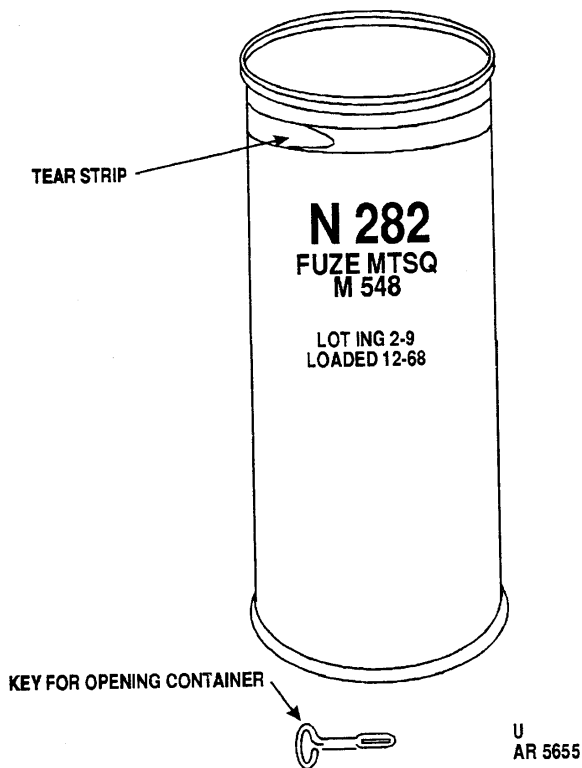

Figure 3-9. Ammunition Metal Container.
3.3.13 Ammunition Metal Container (fig. 3-9).